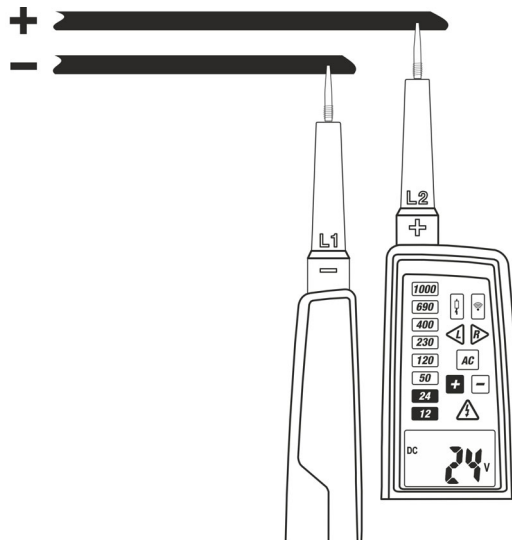

Fig. 4: DC Voltage measurement
2. Connect the **L1** and **L2** probes to the object under test (see Fig. 4). The measurement is performed **only with contact of probes directly on metal parts of conductors**
4. Should symbol "-" be displayed it means that the detected voltage has an opposite direction compared to the connection shown in Fig. 4